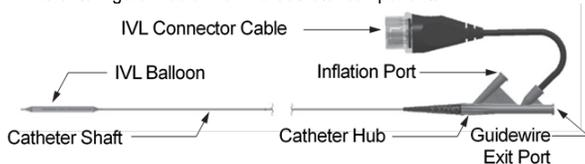

Figure 1: Shockwave L⁶ Peripheral IVL Catheter
The IVL Catheter is a proprietary lithotripsy device delivered through the peripheral arterial system of the lower extremities to the site of an otherwise difficult to treat calcified stenosis. Energizing the lithotripsy device will generate pulsatile mechanical energy within the target treatment site, disrupting calcium within the lesion and allowing subsequent dilation of a peripheral artery stenosis using low balloon pressure. The IVL Catheter is comprised of an integrated balloon with an array of lithotripsy emitters for the localized delivery of pulsatile mechanical energy. The system consists of an IVL Catheter, an IVL Connector Cable and an IVL Generator. The IVL Catheter is available in four (4) sizes: 8.0 x 30mm, 9.0 x 30mm, 10.0 x 30mm, and 12.0 x 30mm. The L⁶ Peripheral IVL Catheter is compatible with a 7 or 8F sheath and has a working length of 110cm. Refer to Figure 1 below for IVL Catheter components.